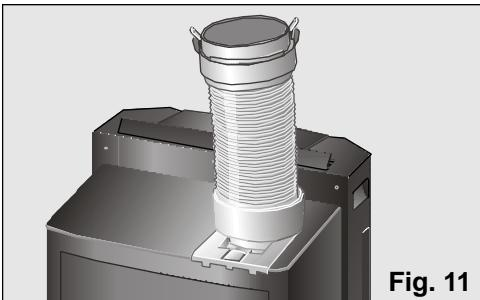

Fig. 11
- ❑ Remove the diffusion duct and set the air expulsion tube to the position shown in **fig. 11**.